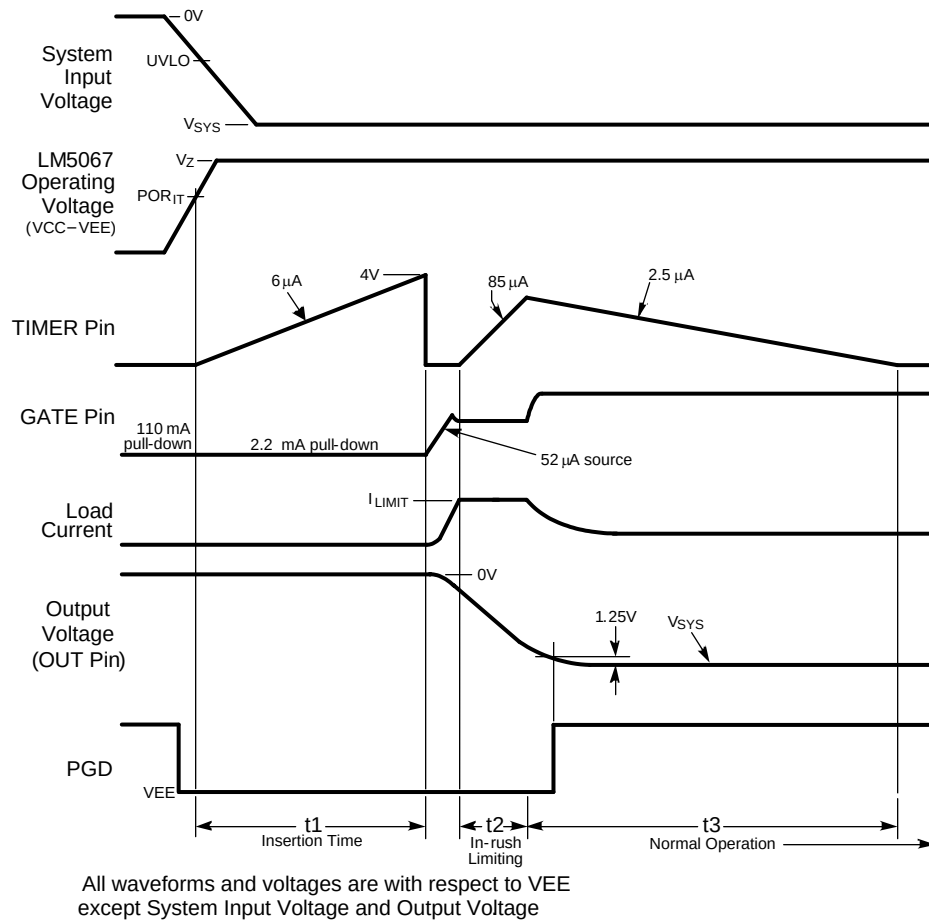

Figure 6. Power Up Sequence (Current Limit only)
The system voltage range of the LM5067 is -9V to -80V, with a transient capability to -100V. Referring to the Block Diagram, Figure 4, and Figure 6, as the system voltage (V_{SYS}) initially increases from zero, the external N-channel MOSFET (Q1) is held off by an internal 110 mA pull-down current at the GATE pin. The strong pull-down current at the GATE pin prevents an inadvertent turn-on as the MOSFET’s gate-to-drain (Miller) capacitance is charged. When the operating voltage of the LM5067 ($V_{CC} - V_{EE}$) reaches the POR_{IT} threshold (7.7V) the insertion timer starts. During the insertion time, the capacitor at the TIMER pin (C_T) is charged by a 6 μA current source, and Q1 is held off by a 2.2 mA pull-down current at the GATE pin regardless of the system voltage. The insertion time delay allows ringing and transients at V_{SYS} to settle before Q1 can be enabled. The insertion time ends when the TIMER pin voltage reaches 4.0V above VEE, and C_T is then quickly discharged by an internal 1.5 mA pull-down current. After the insertion time, the LM5067 control circuitry is enabled when the operating voltage reaches the POR_{EN} threshold (8.4V). As V_{SYS} continues to increase, the LM5067 operating voltage is limited at $\approx 13V$ by an internal zener diode. The remainder of the system voltage is dropped across the input resistor R_{IN} .
The GATE pin switches on Q1 when V_{SYS} exceeds the UVLO threshold (UVLO pin >2.5V above VEE). If V_{SYS} exceeds the UVLO threshold at the end of the insertion time, Q1 is switched on at that time. The GATE pin sources 52 μ A to charge Q1's gate capacitance. The maximum gate-to-source voltage of Q1 is limited by the LM5067's operating voltage (V_Z) to approximately 13V. During power up, as the voltage at the OUT pin increases in magnitude with respect to Ground, the LM5067 monitors Q1's drain current and power dissipation. In-rush current limiting and/or power limiting circuits actively control the current delivered to the load. During the in-rush limiting interval (t_2 in Figure 6) an internal current source charges C_T at the TIMER pin. When the load current reduces from the limiting value to a value determined by the load the in-rush limiting interval is complete and C_T is discharged. The PGD pin switches high when the voltage at the OUT pin reaches to within 1.25V of the voltage at the SENSE pin.
The external N-channel MOSFET is turned on when the GATE pin sources 52 μA to enhance the gate. During normal operation (t3 in Figure 6) Q1's gate is held charged to approximately 13V above VEE, typically within 20 mV of the voltage at VCC. If the maximum V_{GS} rating of Q1 is less than 13V, a lower voltage external zener diode must be added between the GATE and SENSE pins. The external zener diode must have a forward current rating of at least 110 mA.
During the insertion time (t_{11} in Figure 6) the GATE pin is held low by a 2.2 mA pull-down current. This maintains Q1 in the off-state until the end of t_1 , regardless of the voltage at VCC and UVLO.
Following the insertion time, during t2 in Figure 6, the gate voltage of Q1 is modulated to keep the current or Q1's power dissipation level from exceeding the programmed levels. Current limiting and power limiting are considered fault conditions, during which the voltage on the TIMER pin capacitor increases. If the current and power limiting cease before the TIMER pin reaches 4V the TIMER pin capacitor is discharged, and the circuit enters normal operation. See Fault Timer and Restart for details on the fault timer.
A) Insertion Delay - Upon applying the system voltage (V_{SYS}) to the circuit, the external MOSFET (Q1) is held off during the insertion time (t_1 in Figure 6) to allow ringing and transients at V_{SYS} to settle. Since each backplane's response to a circuit card plug-in is unique, the worst case settling time must be determined for each application. The insertion time starts when the operating voltage (V_{CC-VEE}) reaches the POR_{IT} threshold, at which time the internal 6 μA current source charges C_T from 0V to 4.0V. The required capacitor value is calculated from: